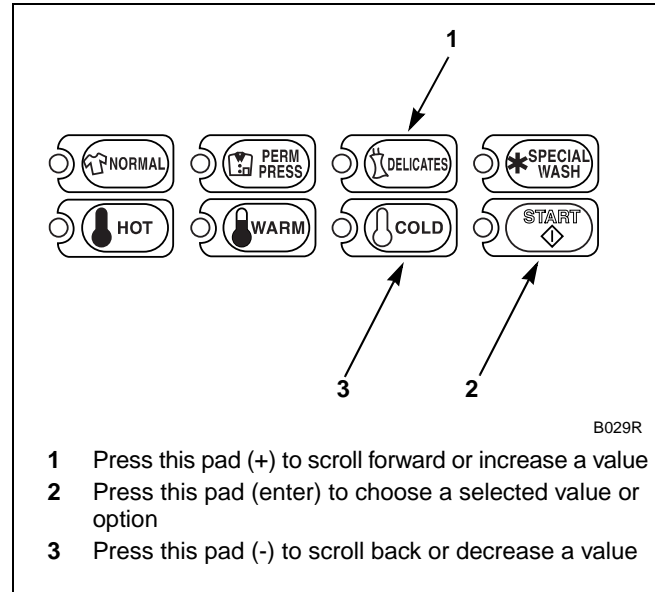

Figure 152
5. Press the DELICATES (+) or the COLD (-) keypad to increase or decrease the current output value displayed in the VFD to the desired output value. Refer to *Figure 152*.